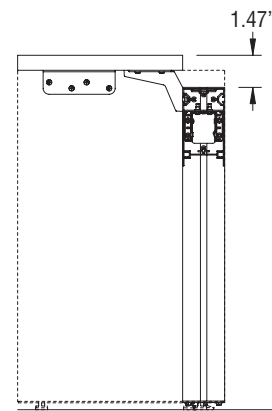

Figure 8
- Beam face is always accessible and visible at the back of the worksurface. The back vertical edge of the worksurface will align with front edge of beam but the surface height will be 1.47" above the beam top to allow space for cord management (Figure 8).